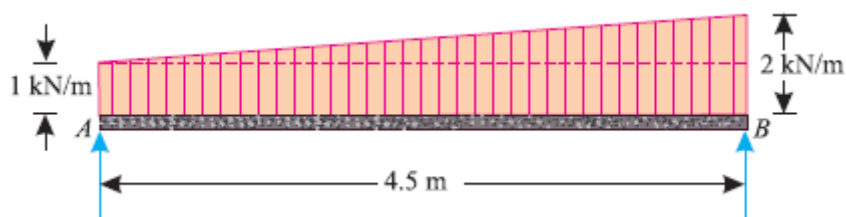

Fig.6
9. A simply supported beam AB of span 4.5 m is loaded as shown in Fig.6. Find the support reactions at A and B. [10 M]